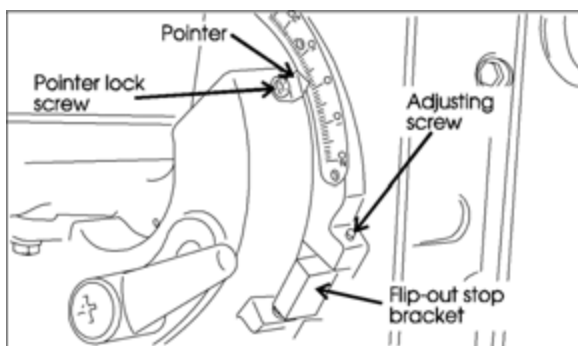

Figure 6: Location of adjustment (socket head) screws and pointer attachment screw for table angle adjustment.
5. If adjustment is required, turn the adjusting screw (Figure 6) until the table is exactly square to the platen.
1. Flip out the stop bracket (see Figure 6).